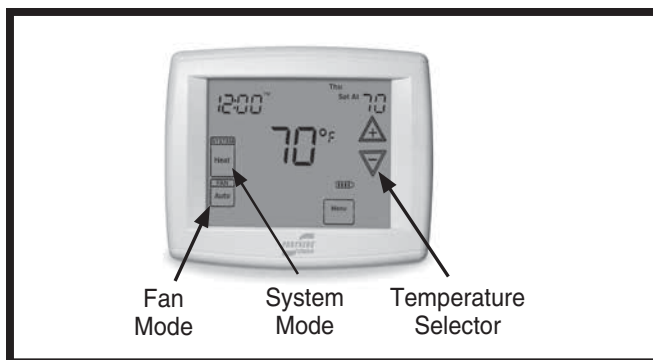

Figure 1. Digital Thermostat
1. Set the thermostat's system mode to COOL or AUTO and change the fan mode to AUTO. See Figure 1
1. Set the thermostat's system mode to HEAT or AUTO and change the fan mode to AUTO. See Figure 1.
1. Set the thermostat system switch to AUTO and the thermostat fan switch to AUTO. See Figure 1.
Set the thermostat fan mode to ON (Figure 1). The indoor blower starts immediately, and will run continually on low speed until the fan mode is reset to AUTO.
Change the thermostat's system mode to OFF and the fan mode to AUTO. See Figure 1. **NOTE:** The system will not operate, regardless of the temperature selector setting.